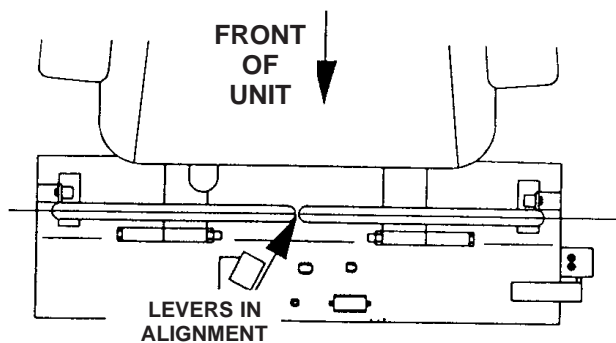

Figure 4
- If the ends of the motion control levers hit against each other while they are in the drive position (Fig. 4) (the levers are rotated in as far as possible), make adjustments by moving the levers outward to the neutral lock position and carefully bend them outward. Move them back to the drive position and check for clearance. Repeat if necessary.